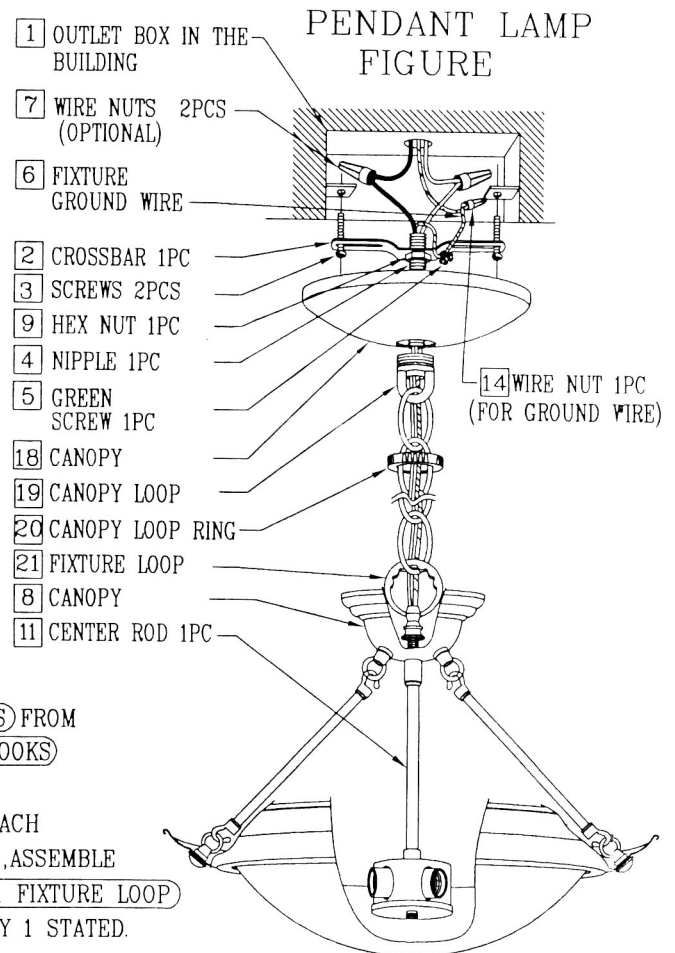

FIGURE 2
2. DETACH (8 CANOPY) FROM (11 CENTER ROD), THEN DETACH (16 SHORT CENTER ROD) AND (17 DECORATIVE BREAK), ASSEMBLE (8 CANOPY) IN FIGURE 2 TO (11 CENTER ROD) WITH (21 FIXTURE LOOP) BEFORE INSTALLING THE FIXTURE, AS INSTALLING WAY 1 STATED.